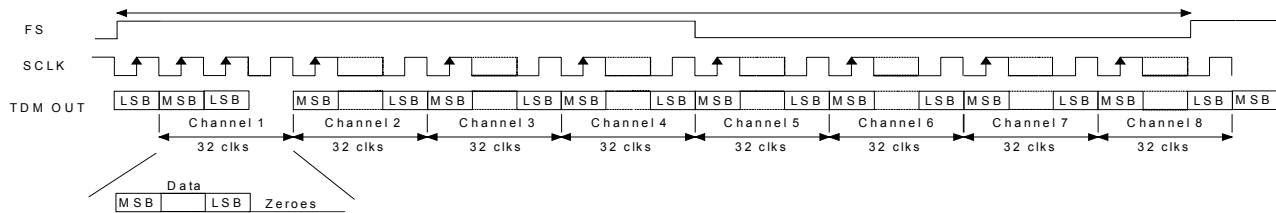

Figure 12. TDM Format
In TDM Mode, all eight channels of audio data are serially clocked out during a single Frame Sync (FS) cycle, as shown in Figure 12. The rising edge of FS signifies the start of a new TDM frame cycle. Each channel slot occupies 32 SCLK cycles, with the data left justified and with MSB first. TDM output data should be latched on the rising edge of SCLK within time specified under ‘Serial Audio Interface - TDM Timing’ section on page 16. The TDM data output port resides on the SDOOUT1 pin. The TDM output pin is complimentary TDM data. All SDOOUT pins will remain active during TDM Mode. Refer to Section 4.11 “Optimizing Performance in TDM Mode” on page 29 for critical system design information.